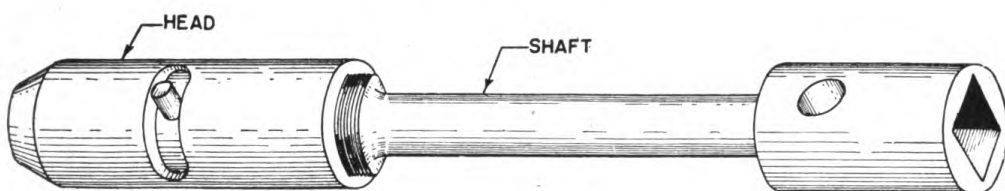

Figure 23. Stud-installing wrench.
(2) A stud-installing wrench consists of a head tapped to fit the fine threads of the stud bolt, and a shaft machined to fit a socket handle on one end, having coarse threads which screw into the head of the wrench on the other. A recess is machined in the head, leaving an opening of about  $90^\circ$ . A pin is driven through this recess into the shaft. Therefore the head of the wrench can be turned only  $90^\circ$  on the shaft. Turning the head  $90^\circ$  gives it a slight longitudinal movement since it is threaded on the shaft. (See fig. 23.) To install a stud, it is first screwed into the head of the wrench until it strikes the end of the shaft. The other end of the stud is then screwed into place, using a socket handle to turn the wrench. When the stud is tightened with the proper torque the shaft of the wrench is turned counterclockwise. As the shaft turns  $90^\circ$  in relation to the head it is freed from the end of the stud. The wrench can then be easily removed.